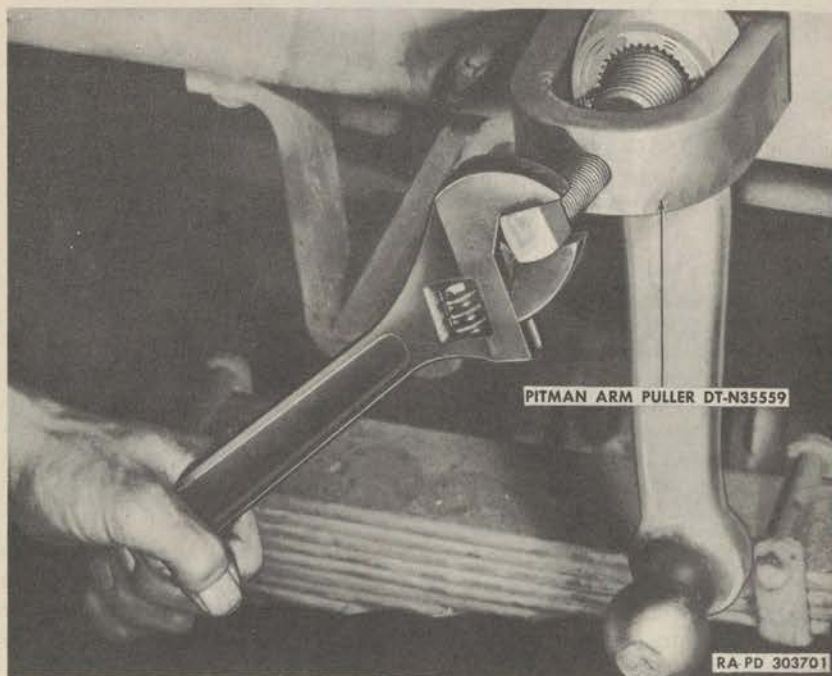

Figure 162—Pulling Steering Pitman Arm with Puller (41-P-2952)
(2) **REMOVE STEERING PITMAN ARM.** Remove the nut and lock washer from the lever shaft. Using a prick punch, mark the lever shaft and the steering Pitman arm to indicate the position of the arm on the serrations of the lever shaft to facilitate replacement. Then remove the steering Pitman arm, using puller (41-P-2952) (fig. 162).